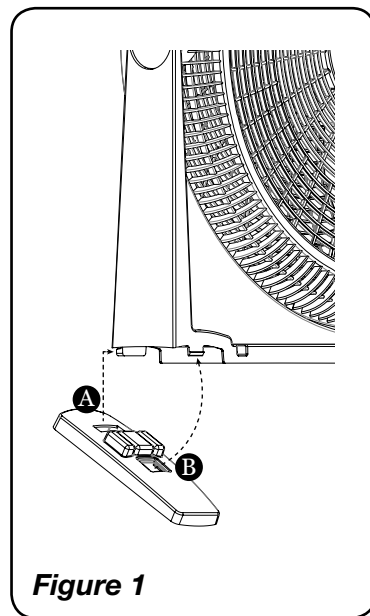

Figure 1
2. Install feet before operating fan. (Figure 1)
- (A) Hook front of foot on Yoke
- (B) Push back of foot until it snaps into place.Note: Both feet are identical and interchangeable.